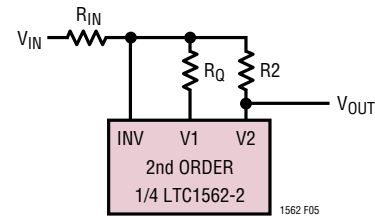
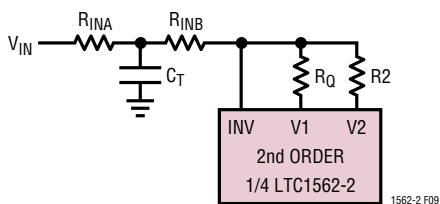

Figure 5. Basic Lowpass Configuration
Figure 9. Lowpass “T” Input Circuit
When Z_{IN} of Figure 3 is a resistor of value R_{IN}, a standard 2nd order lowpass transfer function results from V_{IN} to V₂ (Figure 5):
- Lowpass response (resistor input, V2 output, Figure 5) with $f_0 < 200\text{kHz}$
The virtual ground INV input in the Operational Filter block provides a means for adding an “extra” lowpass pole to any resistor-input application (such as the basic lowpass, Figure 5, or bandpass, Figure 6a). The resistor that would otherwise form Z_{IN} is split into two parts and a capacitor to ground added, forming an R-C-R “T” network (Figure 9). This adds an extra, independent real pole at a frequency: